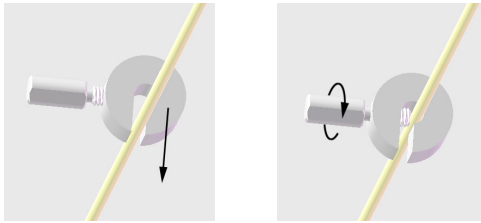

Figure 2: Applying the DBS Lead Stop
5. Measure the desired depth of DBS Lead with a gauge or ruler and apply the DBS Lead Stop at that length. To apply the DBS Lead Stop, push the DBS Lead to the center of the Lead Stop and then tighten the Screw (Figure 2). This will ensure that the DBS Lead will be inserted to the proper depth.